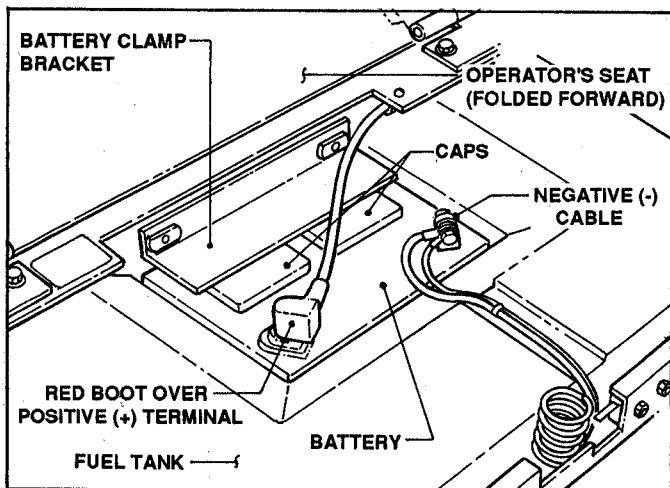

FIGURE 3.3
- ALWAYS** connect the Positive (+) cable to the Positive battery terminal **BEFORE** attaching the Negative (-) cable to the Negative terminal. This procedure will prevent accidental arcing should a wrench or pliers touch the tractor frame during removal or installation. **ALWAYS** disconnect the Negative (-) ground terminal first. See Figure 3.3.